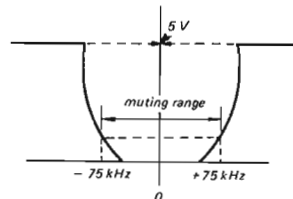

Fig. 1-12
This muting is related with the voltage on terminal ⑫ of IC201. When detuning a station, this voltage changes as shown in Fig. 1-12. Once outside the muting range, the voltage on terminal ⑫ is applied to the base of Q402, thereby turning Q402 ON, and turning Q403 OFF. The muting relay is also energized, resulting in the muting of the output sound.